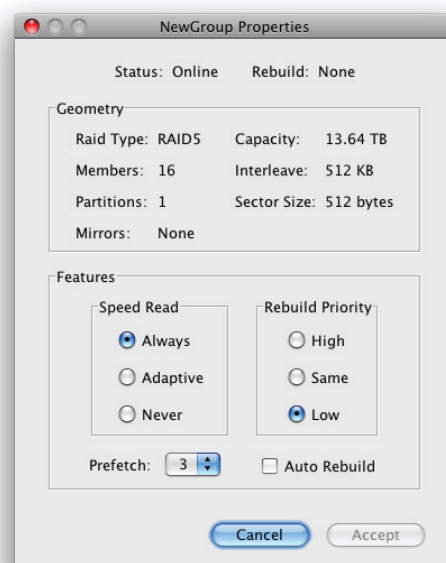

Figure 15
9. Select RAID Management > Properties from the application menu. In the Properties window change the **Prefetch** value to 5. See **Figure 15** on page 15.
Each RAID group has specific properties, and the value of each property remains with the RAID group when it is moved from one computer to another. Some of the properties can only be specified during RAID group creation (RAID level, interleave, and sector size), whereas others may be changed at any time during the life of the RAID group. See **Figure 15** on page 15.